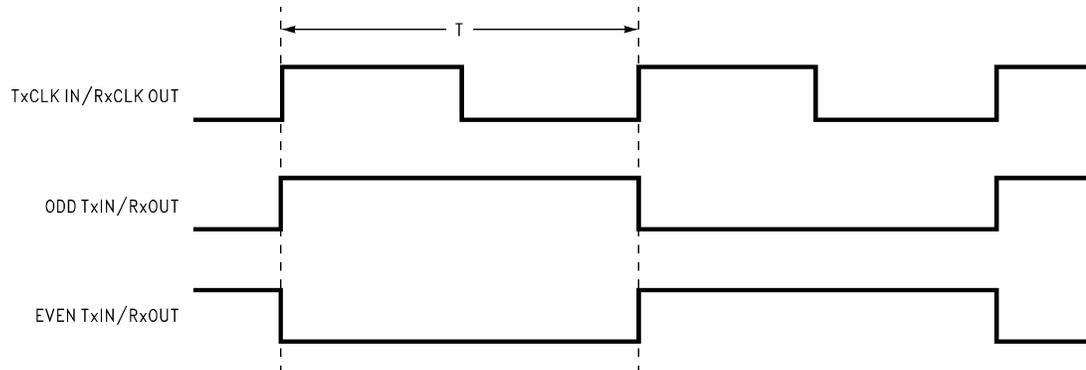

FIGURE 1. "Worst Case" Test Pattern (Note 7)
**Note 9:** Figures 1, 2 show a falling edge data strobe (TxCLK IN/RxCLK OUT).